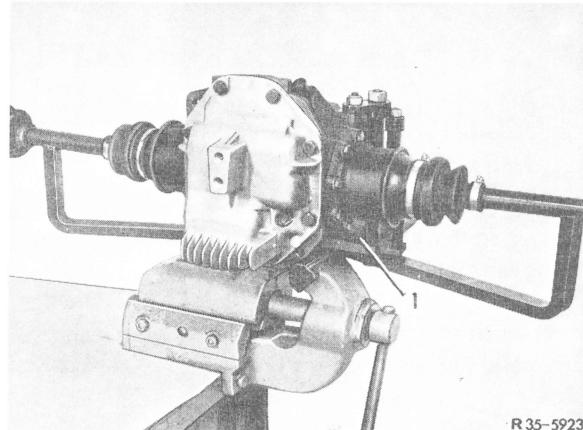

Fig. 1
- 2 Clamp rear axle center piece with rear axle shafts on assembly fixture and support rear axle shafts (Fig. 1). Drain oil from rear axle housing.